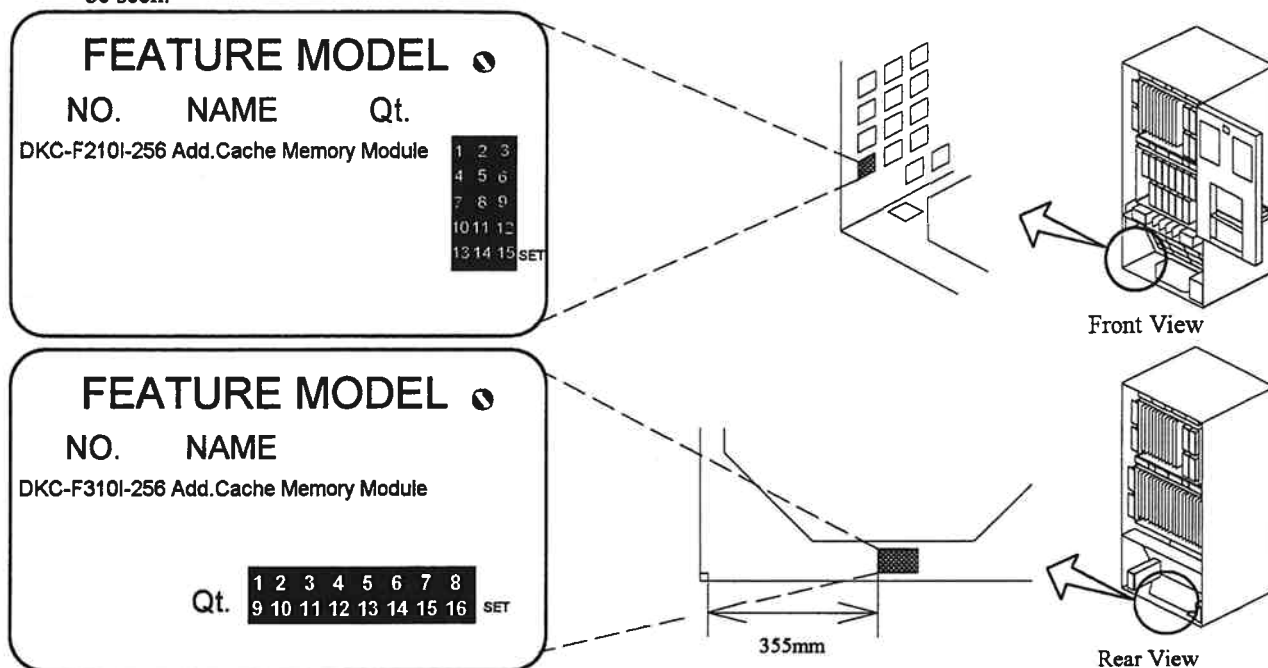

Fig. 3.4.1.4.2-8 Location of the Nameplate
- a. Refer to Fig. 3.4.1.4.2-8 and Table 3.4.1.4.2-10 to paint out unnecessary numbers and wipe off a necessary number painted previously so that the "Qt." marking for the corresponding DKC-F210I-256/DKC-F310I-256 can be seen.